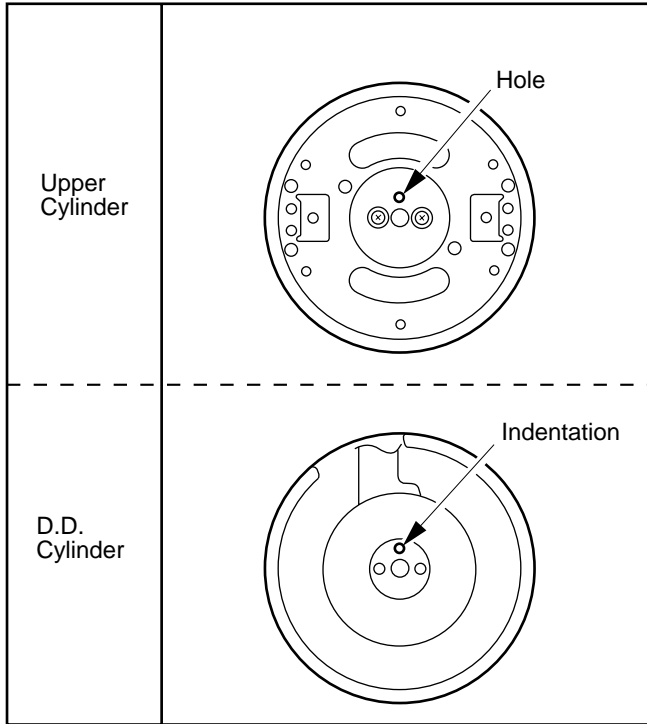

Fig. M4
1. Install the Upper Cylinder Unit carefully so that the hole in the Upper Cylinder Unit is properly matched to align the hole on the Upper Cylinder to the center of the indentation on the D.D. Cylinder. For details on the installation position, refer to Fig. M4.
2. Tighten 2 Screws with Washers (A) shown in Fig. M4.